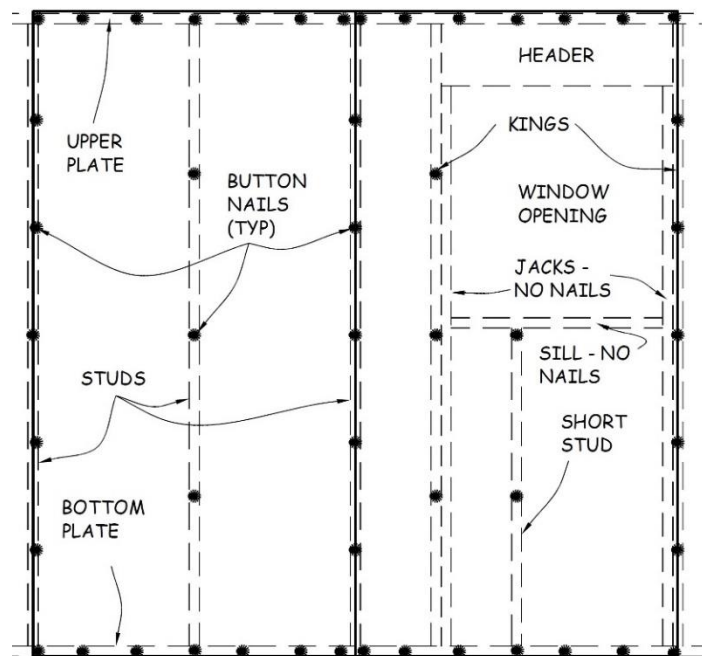

Figure 5-2. Foamboard Nailing Pattern.
6. On side and back walls, install 1" foamboard sheathing between OSB wind bracing, over the house wrap and flush to the bottom of the bottom plate. Position the foamboard so the grooved side is butted up against any OSB. If this is not possible, cut off the "tongue" of the foamboard before placing it next to the OSB. Nail the foamboard with 2" button nails following the Foamboard Nailing Pattern: seven equally spaced nails down each side stud, five down the middle stud, and two between each stud in the upper and bottom plates (see Figure 5-2). The seven nails down each side stud can be shared
between two abutting pieces of foamboard. Position the nail in the middle of the gap between the two so that the “button” holds both pieces of foamboard in place (see Figure 5-2).
8. Install ½” foamboard over all OSB, flush on all sides. Nail with 1” button nails following the Foamboard Nailing Pattern described in Section 5.3.6 and shown in Figure 5-2. Tape all seams and any broken score lines with air sealing tape.
13. Install ½" foamboard over all OSB, flush on all sides. Nail with 1" button nails following the Foamboard Nailing Pattern described in Section 5.3.6 and shown in Figure 5-2. Tape all seams with air sealing tape.